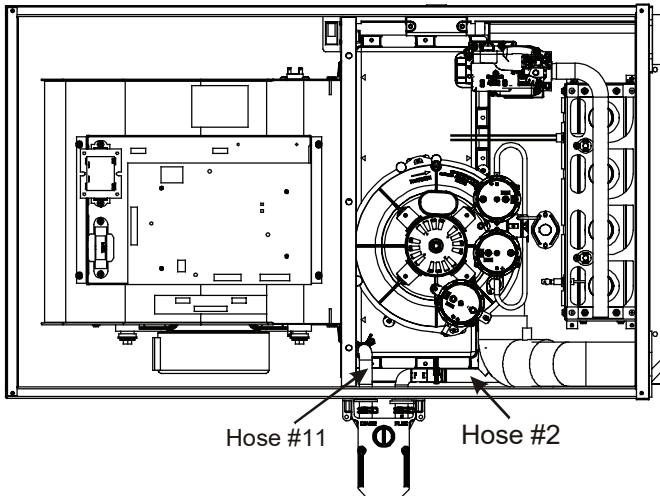

FIGURE 23
1. Locate and Install the 45° pipe / hose drain coupling from the outside of the cabinet (barbed end goes in the cabinet) through hole in the right side of the cabinet and secure with two field supplied #8 self-tapping screws (see Figure 23).